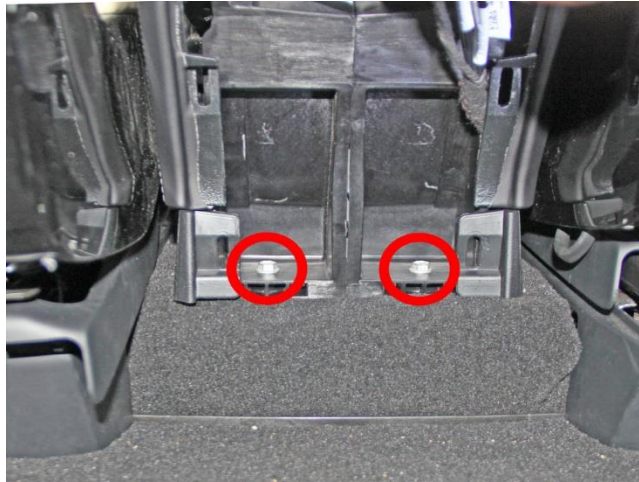

Figure 31. Bolts securing the rear base of the center console
- t. Remove the bolts that secure the rear of the center console to the vehicle (Figure 31).